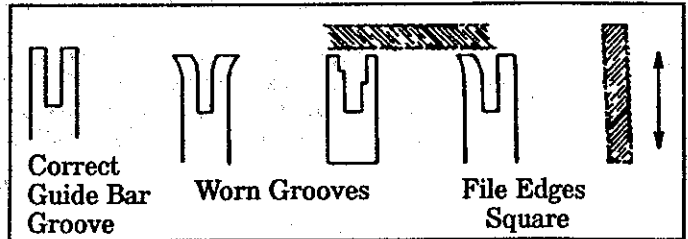

Figure 35
- the guide bar is bent or cracked. See Figure 35.
- d. Remove burrs by filing the side edges of the guide bar grooves square with a flat file. Figure 35.
- e. Restore square edges to an uneven rail top by filing with a flat file. Figure 35.